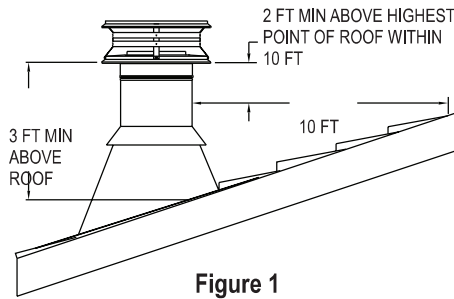

Figure 1
The National Fire Protection Association Standard #211 states: "Chimneys shall extend at least three feet above the highest point where it passes through the roof of a building, and at least two feet higher than any portion of a building within ten feet." (**Fig.1**) DuraTech Chimney may be installed up to 60 feet high. If the chimney extends more than 5 feet above the roof, an Extended Roof Bracket must be used (see page 12). Due to the overlap of the joints, subtract 1-1/4 inches from each Chimney Section's height to calculate installed height.
11. **Finish Top:** Apply a high-temperature (500°F), non-hardening waterproof sealant around the chimney at the point where the Storm Collar will meet the chimney just above the Flashing (**Fig.15**). Slide the Storm Collar down over the chimney to the top of the Flashing. Tighten and seal the Storm Collar against the sealant. After installing sufficient Chimney Sections to meet the height requirement (**Fig.1**), attach the Chimney Cap onto the top of the chimney by holding the